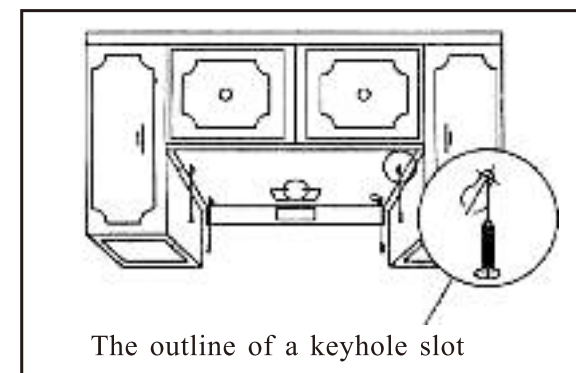

Fig. 7 Fasten screws to the bottom of the cabinet
3. On the bottom of the cabinet, mark the center position of the narrower ends of the four keyholes on the top of the range hood. Screw the four 5/8"—long wood screws (3/16" in diameter) on the cabinet loosely. (Fig.7)